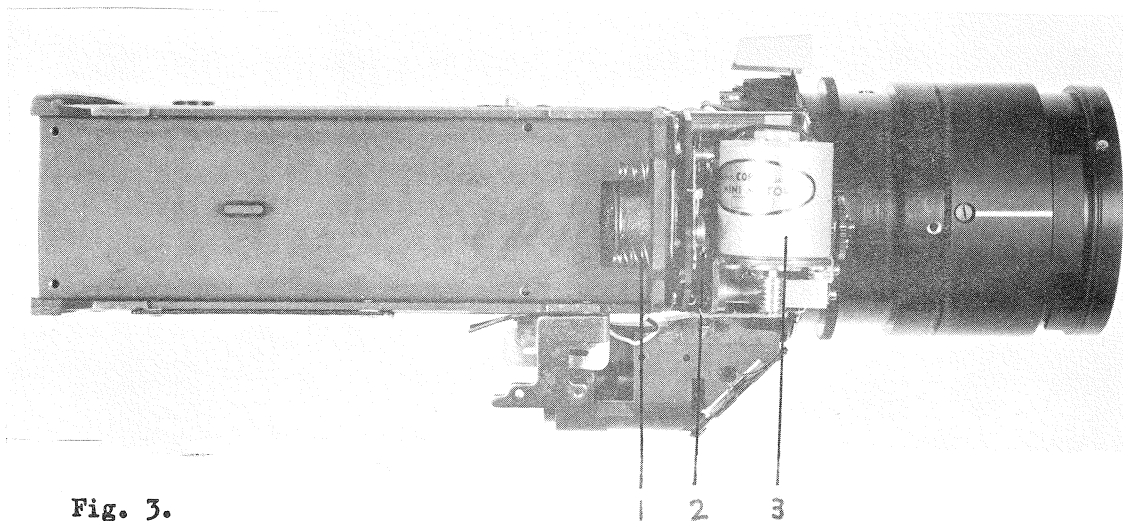

Fig. 3.
- b-1. Inspect, remove and replace battery case contact spring (1 in Fig. 3).
- b-2. Inspect zooming motor (3 in Fig. 3).
- b-3. Inspect and adjust 85 filter operation (2 in Fig. 3).